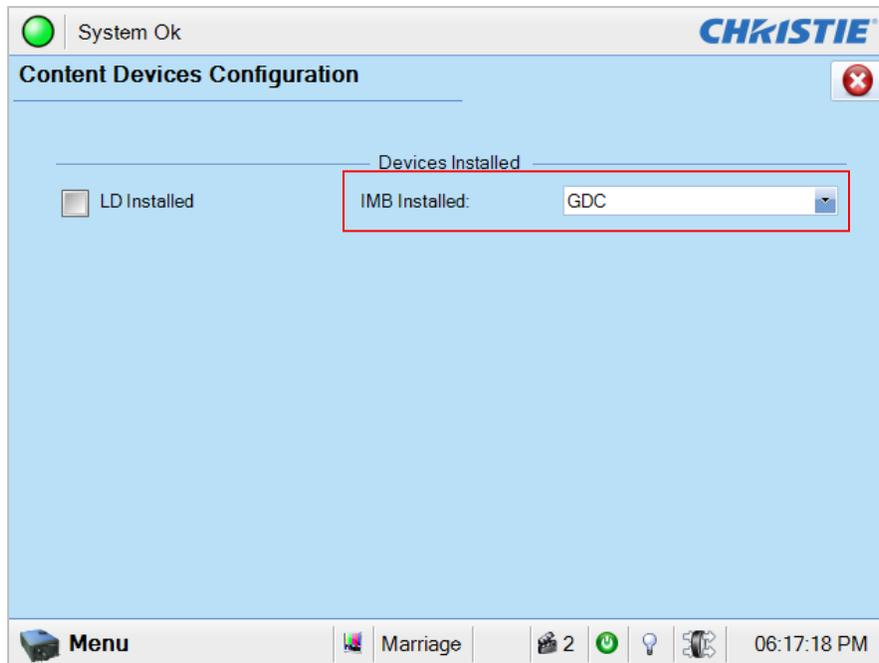

Figure 28 Content Devices Configuration
4. Select **[GDC]** for the **[IMB Installed]** (as shown in Figure 28)